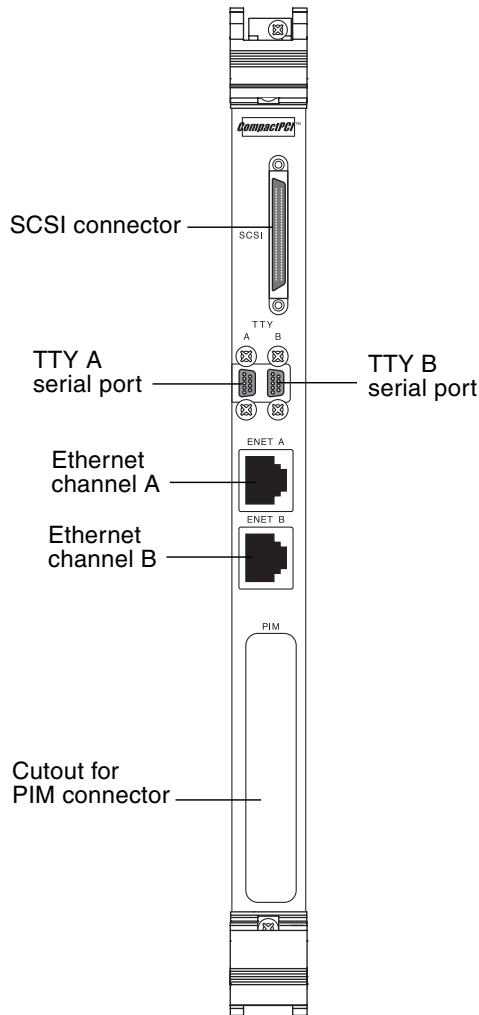

FIGURE 4-7 Connectors on the CPU Rear Transition Card
- CPU rear transition card—FIGURE 4-7